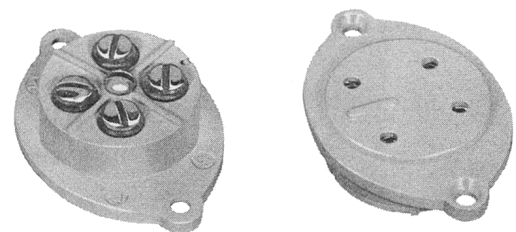

Fig. 17 — 548A Jack
2.17 The 548A jack (Fig. 17) is a one-piece, 4-contact jack of molded plastic intended for flush mounting in a 63A bracket, in an electrical outlet using a 43-type bracket, or in woodwork through a 1-1/4 inch hole.